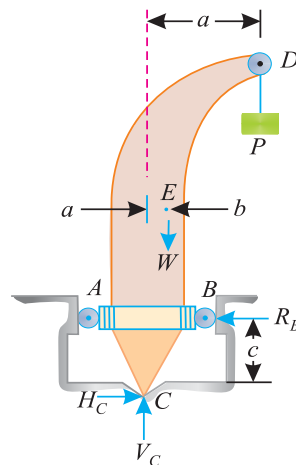

Fig. 5.31.
**Example 5.13.** A revolving crane is supported by a point at C and rollers at A and B. The crane carries a load P applied at D in addition to its own weight W at E as shown in Fig. 5.31.